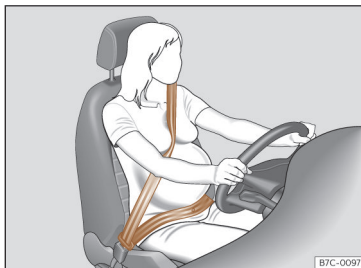

Fig. 23 Position of seat belt during pregnancy.
In the case of **pregnant women**, the seat belt should pass uniformly over the chest and as low as possible through the pelvic area with the strap flat so it does not press down on the abdomen; in addition, it must be used throughout the entire pregnancy >>> **Fig. 23**.
- In the case of pregnant women, the abdominal strap of the seat belt should pass as low as possible across the pelvic area, resting flat and “surrounding” the abdomen >>> Fig. 23.